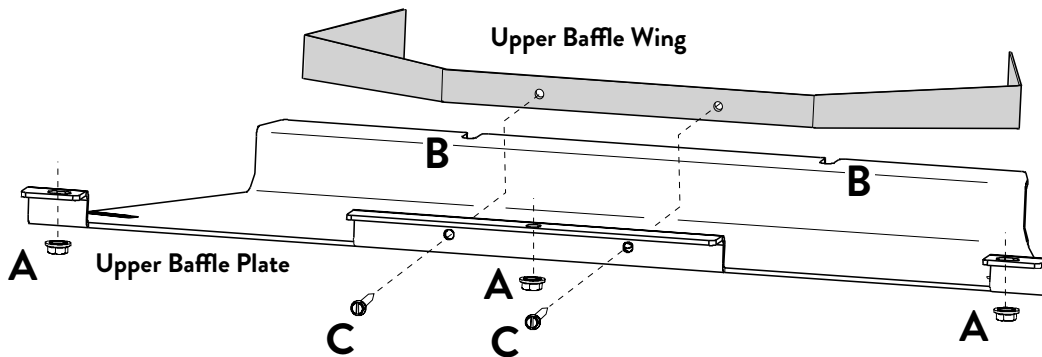

Figure 16. Baffle Conversion - Propane Only.
7. LP CONVERSION ONLY: Remove the Upper Baffle Wing from the firebox. See fig. 16 below and also fig. 98.
- Remove three 10 mm hex nuts (A) from the front of the Upper Baffle plate.
- Loosen, but do not remove the two 10 mm hex nuts (B) from the rear of the Upper Baffle plate. These are not visible, but you will be able to locate them with your fingers. The baffle plate will drop down enough to enable you to remove the Inner Wing panel from the firebox.
- Remove the two sheet metal screws (C) that secure the Inner Baffle Wing to the center of the Upper Baffle.